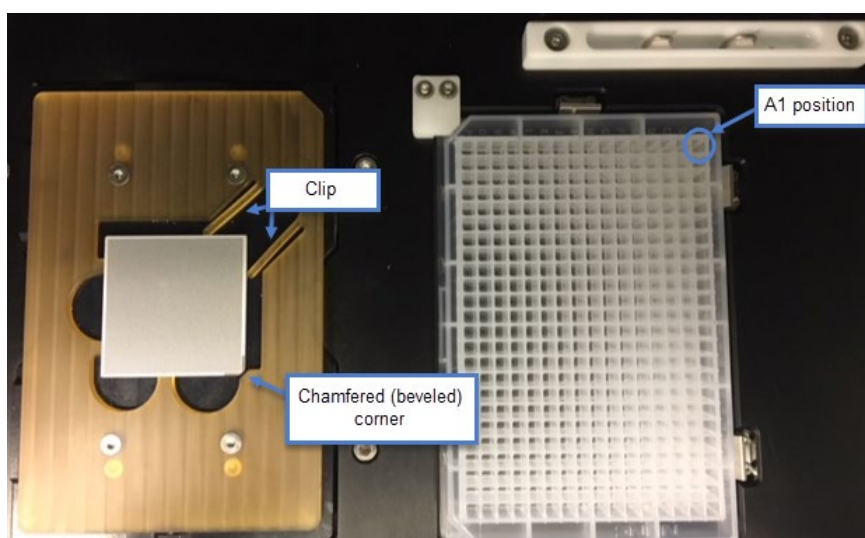

Figure 3. ICELL8 cx Single-Cell System Stage Module. (Left) chip nest. (Right) source plate nest.
- All dispensing steps in the ICELL8 cx Single-Cell System Stage Module should be performed with a 384-Well Source Plate oriented with the A1 well positioned at the top-right corner of the 384-well plate nest (Figures 3 and 4, below). The source plate must be fully seated. This may be accomplished by pushing the source plate down after it has been placed on the plate nest.
- All dispensing steps in the ICELL8 cx Single-Cell System Stage Module should be performed with the chip oriented with the chamfered (beveled) corner positioned towards the bottom-right corner of the chip nest (Figure 3, next page).
2. Place the chip on the chip nest in the ICELL8 cx Single-Cell System. The chamfered (beveled) corner of the chip should align with the chamfered corner of the chip nest (refer to Figure 3, above, or the ICELL8 cx Single-Cell System User Manual, Section X.A).